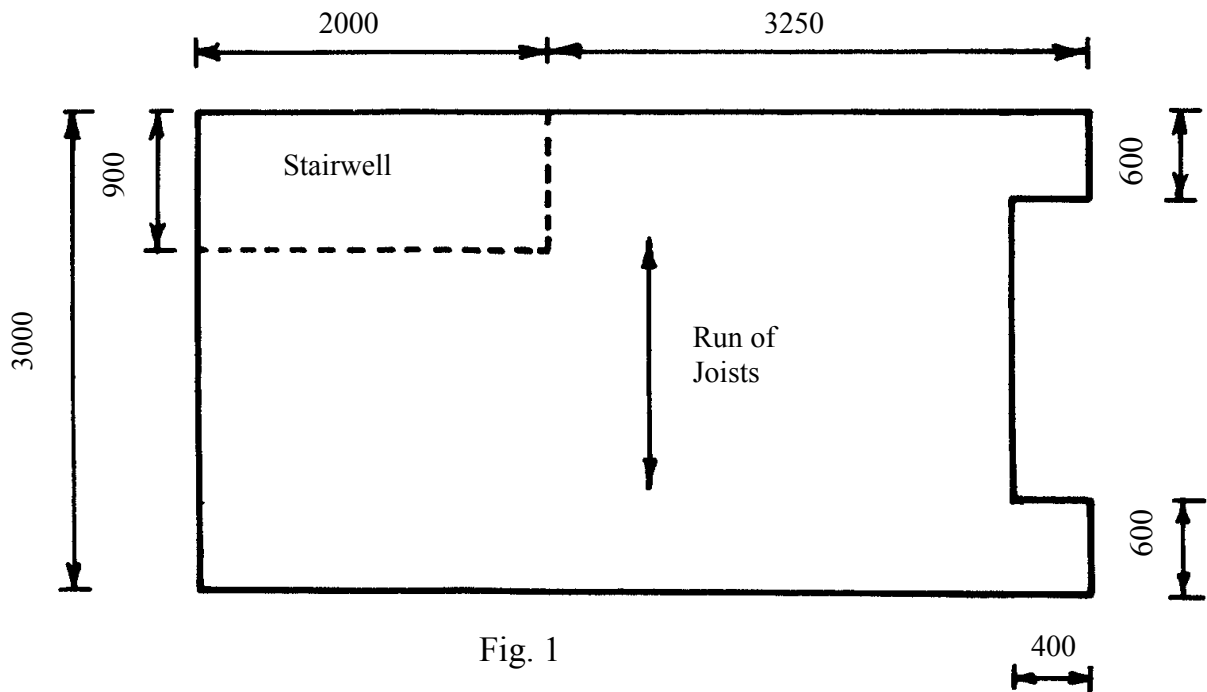

Fig. 1
1. (a) To a scale of 1:20 draw the first floor plan to the dimensions shown in fig.1 to include first floor joists at 400 centres and trimming, indicating names of members and timber sizes.